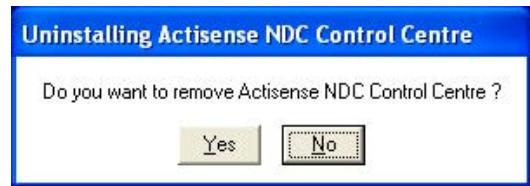
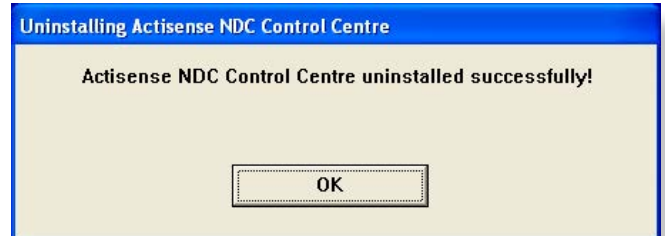

Figure 9 – Uninstall Confirmation
Figure 10 – Uninstall Complete
3. Once the uninstall operation has been requested, the confirmation box ("Figure 9 - Uninstall Confirmation") will be displayed. Answer 'Yes' and the uninstall operation will be performed automatically. After successfully uninstalling the Actisense PC software, the uninstall completion box will appear ("Figure 10 - Uninstall Complete").